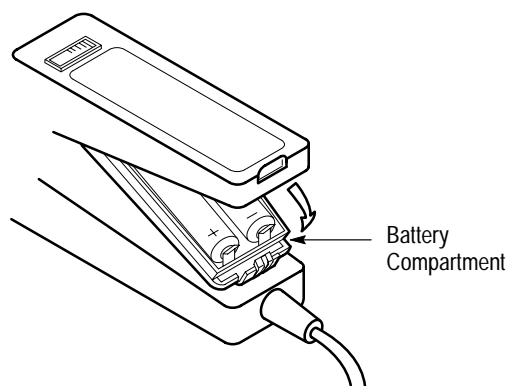

Figure 6: A610 Battery Compartment
3. While observing polarity, install the batteries into the compartment as shown in Figure 6.